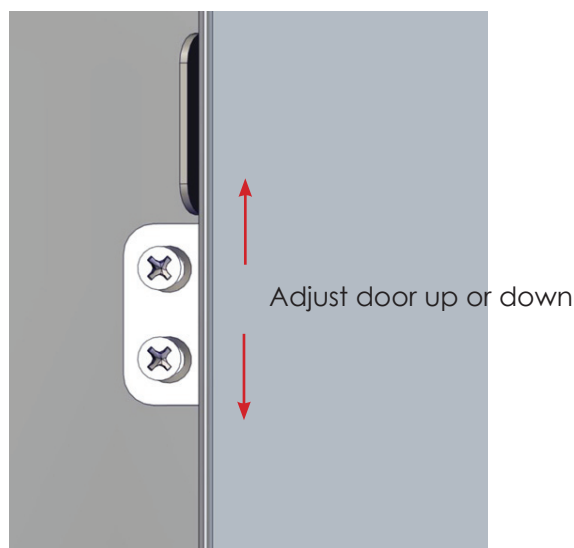

Fig. 21: Adjust door up or down
2. Move the door up or down (up to 1/4" in either direction) to align one door with the other (Fig. 21). Use a level to ensure the door frames align properly.